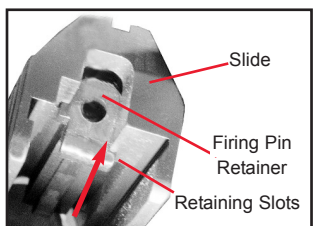

Figure 31
3. Insert the Firing Pin Retainer into its retaining slots in the slide. See Figure 31.